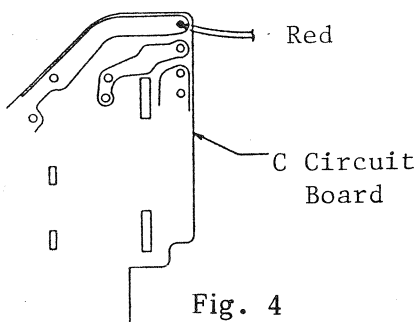

Fig. 4
- 2.2 Unsolder the four leads from the flash head unit on the C and M circuit board ends (Fig. 4 and 5).